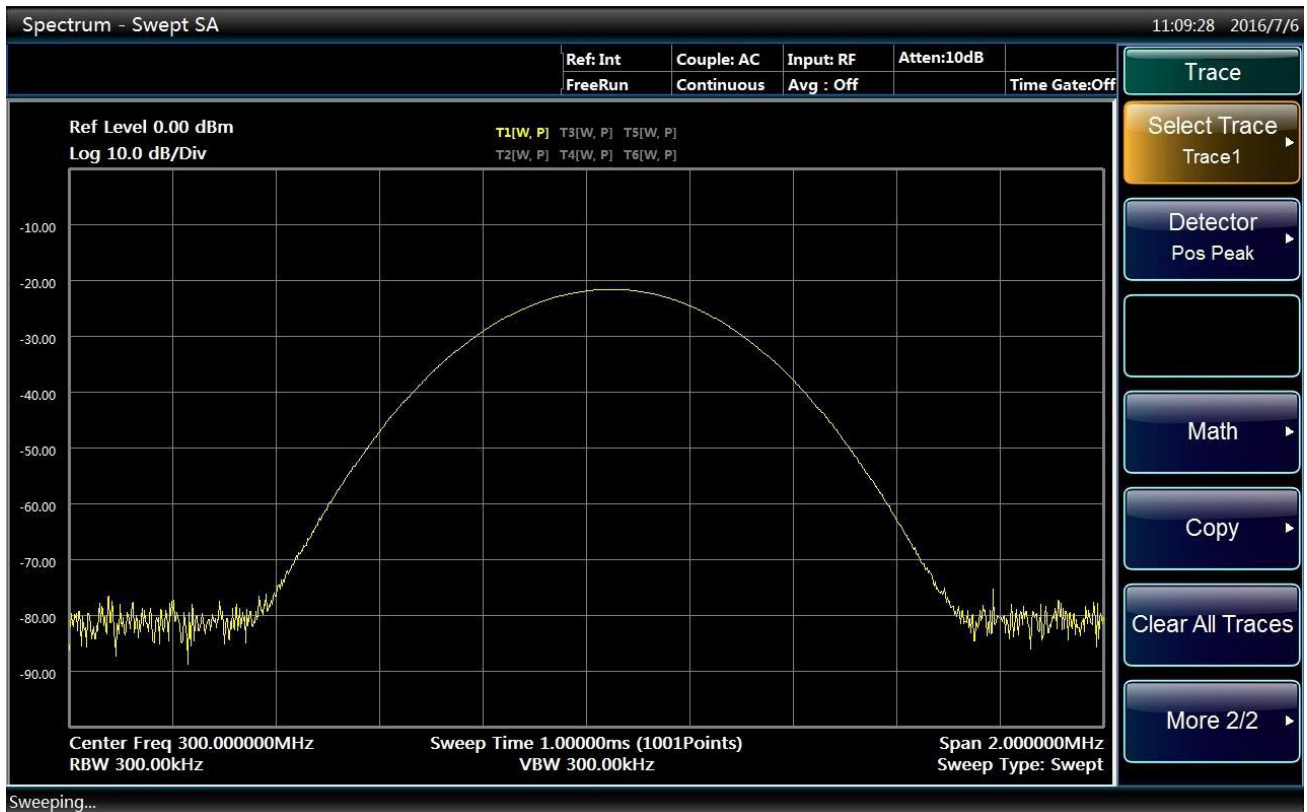

Fig. 4.8 Spectrogram when resolution bandwidth (300 kHz) is larger than signal frequency bandwidth
- Press **【Trace】** , [More 1/2▶], [Detector▶] and [Peak] to switch the detector mode to positive peak. Then you can see there is only one signal peak on the screen of the analyzer as shown in Fig. 4.8.